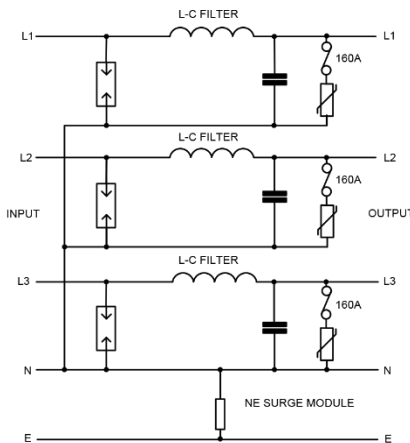
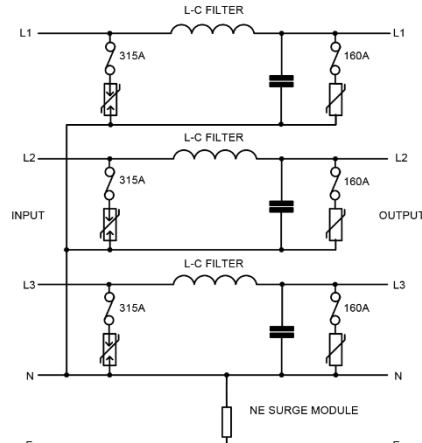

Figure 4
Figure 5
4. Connect the input and output power lines as illustrated in figure 4 and figure 5. Input cables are considered “dirty” and must be physically separate by at least 300 mm from the “clean” output cables. This will prevent any over voltage carried by the incoming cables from being induced onto the outgoing or “clean” cables.